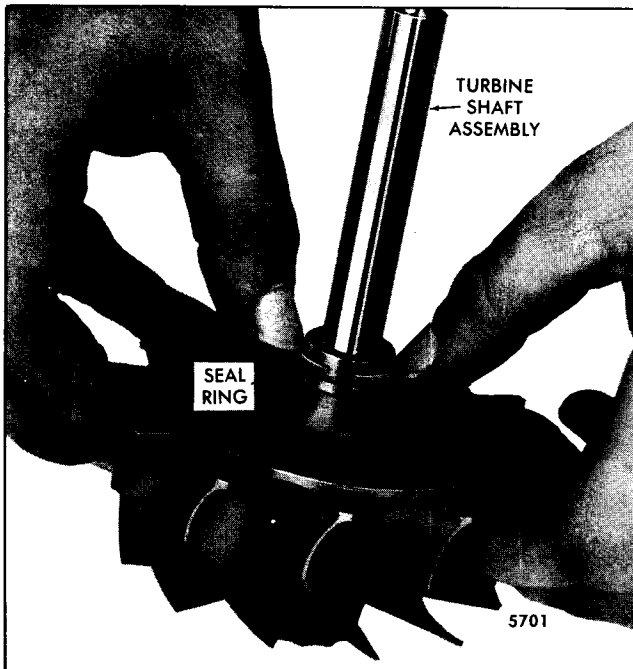

Fig. 13 - Installing Seal Ring on Turbine Shaft
2. Lubricate a new piston ring with clean engine oil and install it in the ring grooves of the wheel and shaft assembly (Fig. 13).